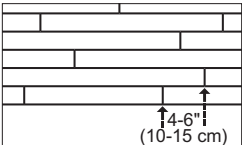

Figure 4
- Be attentive to staggering the ends of boards in adjacent rows at least 4-6" (10-15 cm) when possible (Figure 4). This will help ensure a more favorable overall appearance of the floor.
- Check for a tight fit between all edges and ends of each plank. End-joints of adjacent rows should be staggered 4-6" (10-15 cm) when possible to ensure a more favorable overall appearance (Figure 4).